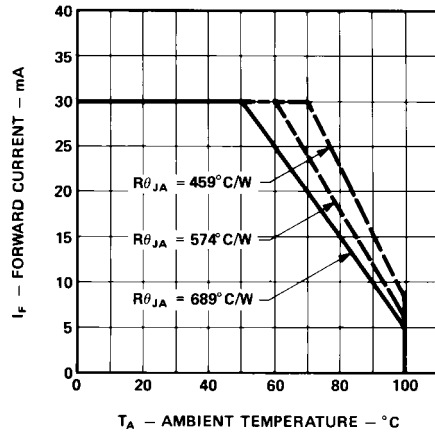

Figure 4. Maximum Forward DC Current vs. Ambient Temperature. Derating Based on $T_J \text{ Max.} = 110^\circ\text{C}$.
2. Derate linearly as shown in Figure 4.